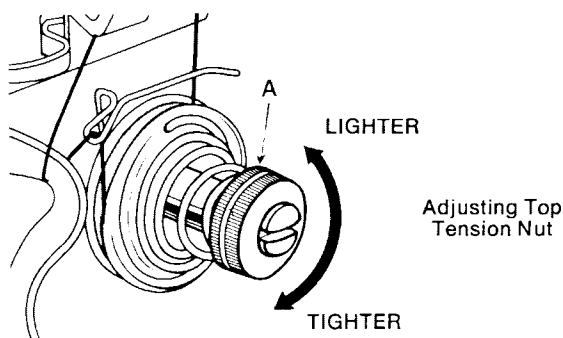

FIG. 1
Tension on the top thread can be adjusted by turning the tension nut (A) in Fig. 1. Tension may be adjusted for variances in thread and material being embroidered. *If tension is too tight* it may cause thread breakage, puckering of material, the bobbin will be too wide on the back or the bobbin may pull up and show through the top of the material. If tension is too loose, thread may loop on top or bottom of material, embroidery will not lay smoothly and very little bobbin will show on back of monogram.